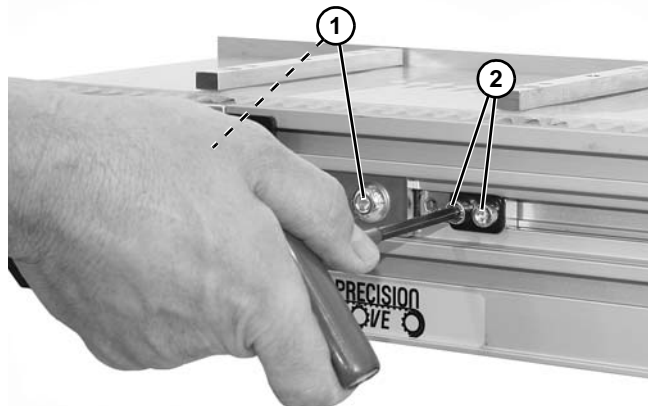

Figure 21
6. Ensure that the tail clamp bolts (**Figure 21, item 1**) on both sides of the conveyor are tightened.
7. Loosen two (2) cam fastening screws (**Figure 21, item 2**) on both sides of conveyor. Slide cam assemblies away from plates.